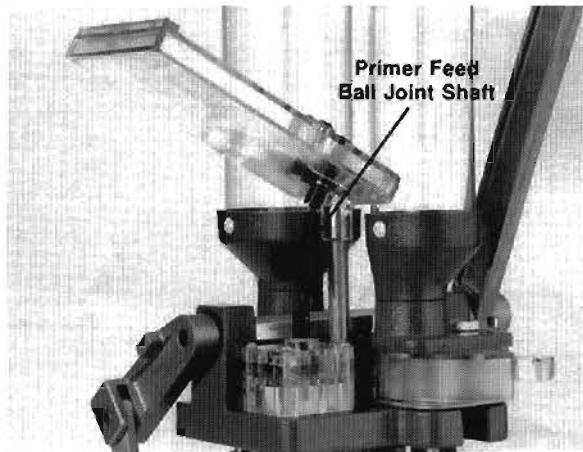

Fig. 10
**Figure 10** - When completed, the primer tray should lock down over the Ball Joint Shaft and the brass primer feed tube. **CAUTION:** When removing the primer tray from your loader, don't twist it. It's designed for a close fit, and may crack or break if not removed straight up.